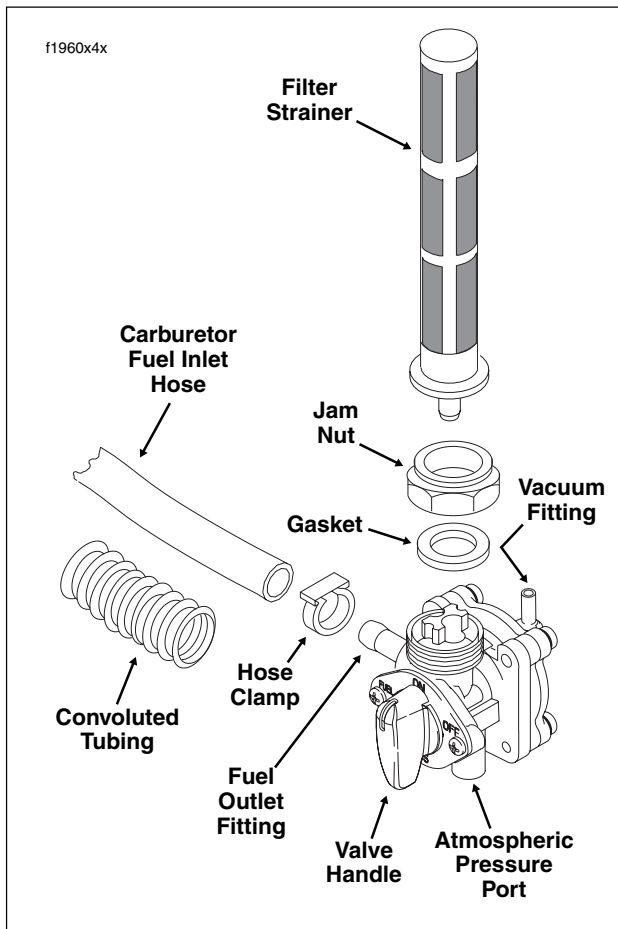

Figure 1-16. Vacuum Operated Fuel Valve
2. Using a side cutters, cut clamp and remove hose from fuel outlet fitting at the front of the fuel valve. See Figure 1-16. Drain free end of hose into a suitable container.